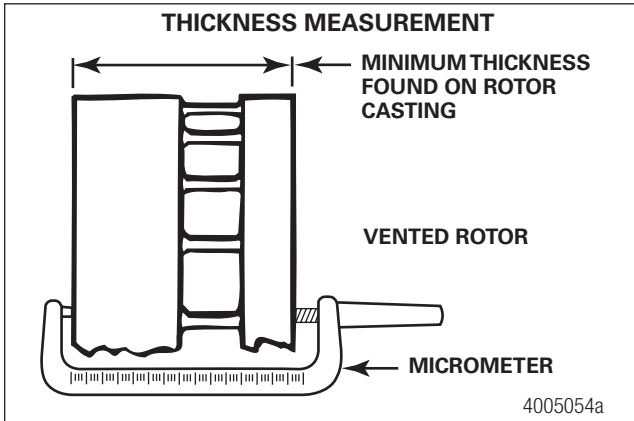

Figure 7.7
1. Use a micrometer to measure rotor thickness. Figure 7.7.